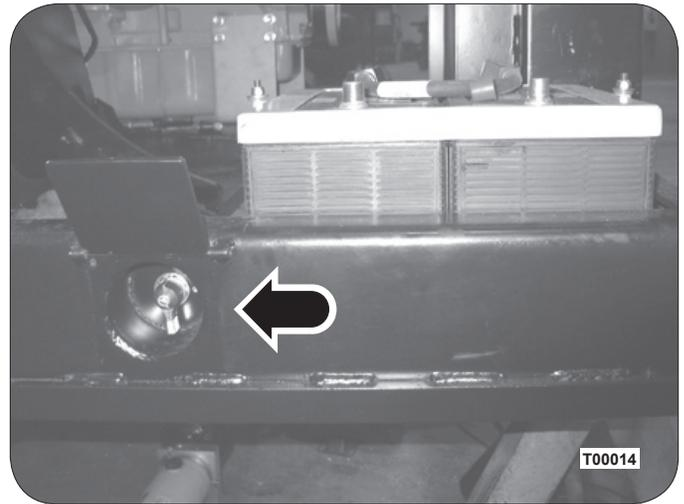

Figure 2: Master Disconnect
3. If the machine is to be left un-attended, such as overnight, switch off the master electrical disconnect or disconnect the positive (+) battery cable. See Figure 2.